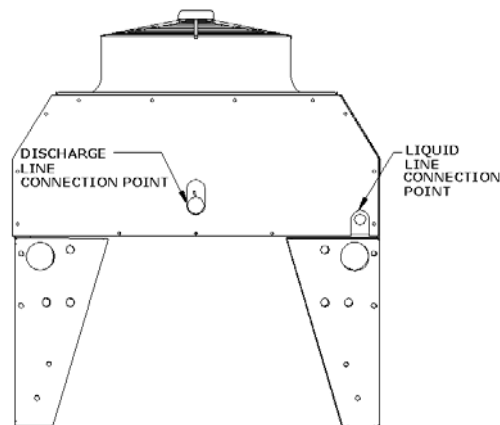

Figure: 2.
- Using an appropriate lifting device to raise the condenser, the legs can be inverted and re-bolted using the existing leg mounting bolts as shown in **Figure 2**.
- Refer to **Figure 2** for refrigeration piping connection points.